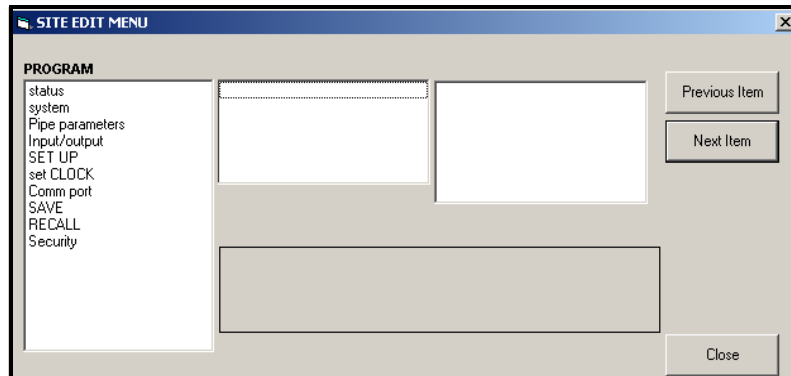

Figure 36: The Site Edit Menu Window
5. To open a particular menu, double-click on that menu on the tree. For example, if you double-click on the Site Edit Menu, a window opens similar to Figure 36 below.